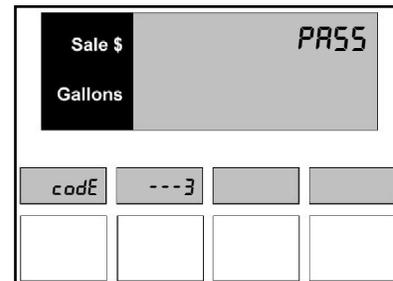

Figure 3.2 – Access Code Entry
3. Press the **Enter** button. When access is gained, the dashes disappear and the PPV display appears as in *Figure 3.2*. If the dashes do not appear, the access code entered did not match the code stored in memory. Press the **Cancel** button and repeat steps 1, 2, and 3.
3. Press the **Enter** button. If access is gained, the four dashes disappear and the PPV display appears as in *Figure 3.2*. If the dashes do not move, an error was made entering the access code. Repeat steps 2, 3, and 4. **Note:** Do not press enter. If enter is pressed the new access code will be set to 0000.
6. Press the **Enter** button. If access is gained, the four dashes disappear and the PPV display appears as in *Figure 3.2* shown on the previous page. **Note:** If the dashes do not appear, an error was made. Repeat Steps 1 through 4.